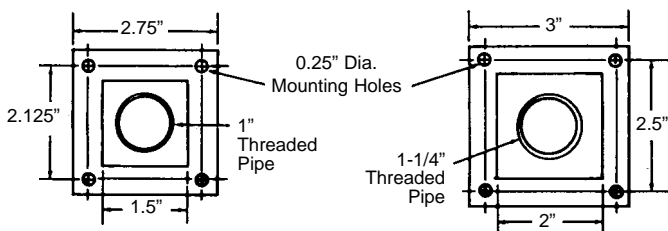

Figure 3b. Pedestal Details
6. Drill holes in floor (Figure 3b) and install threaded inserts (or equivalent) for 1/4" mounting bolts (inserts and bolts supplied by installer).